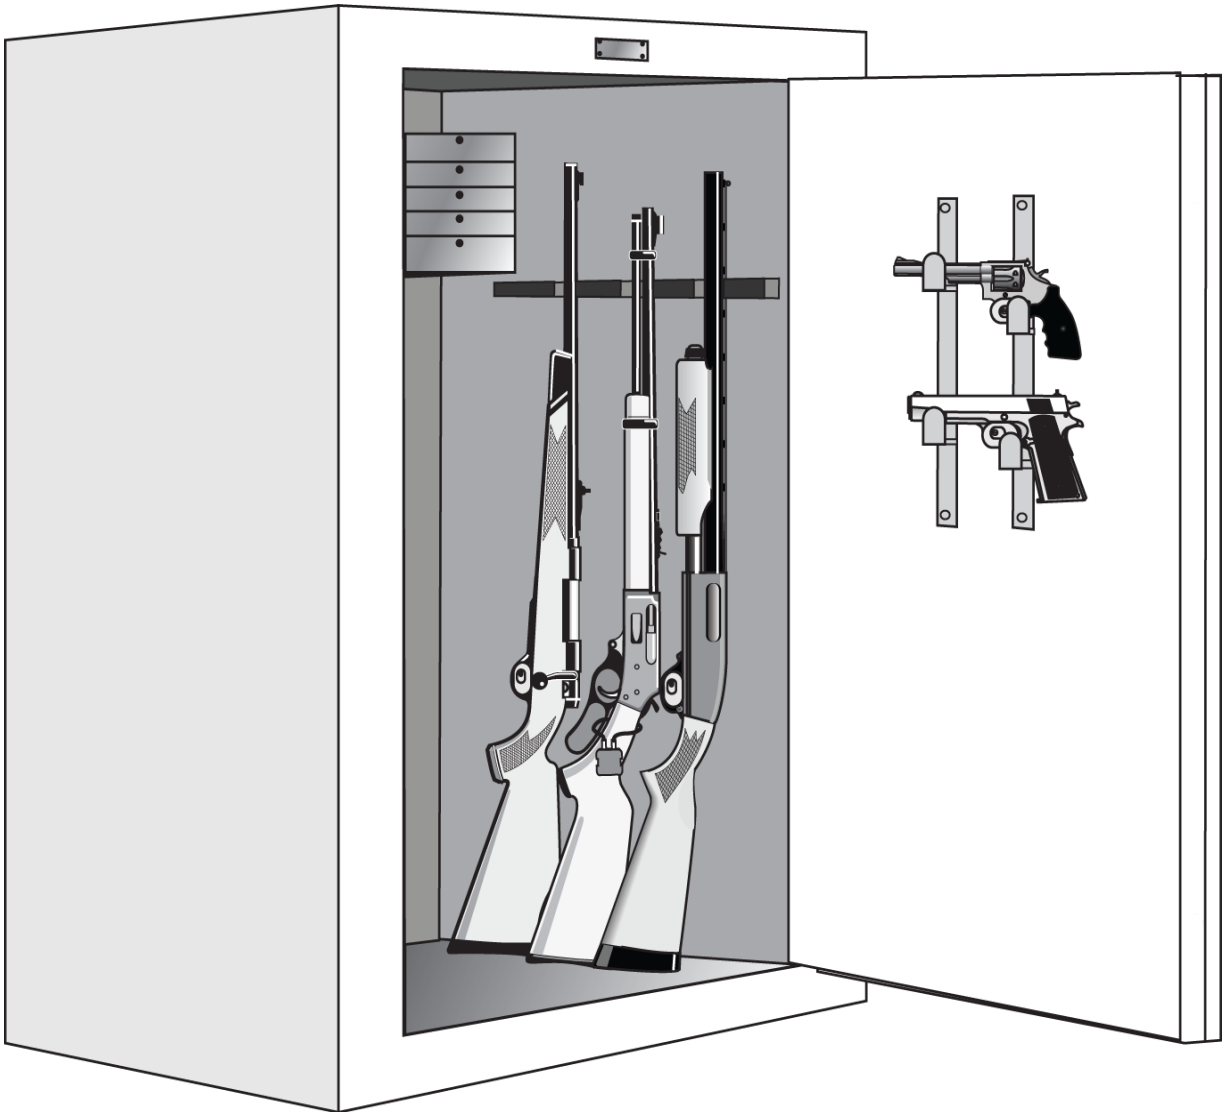
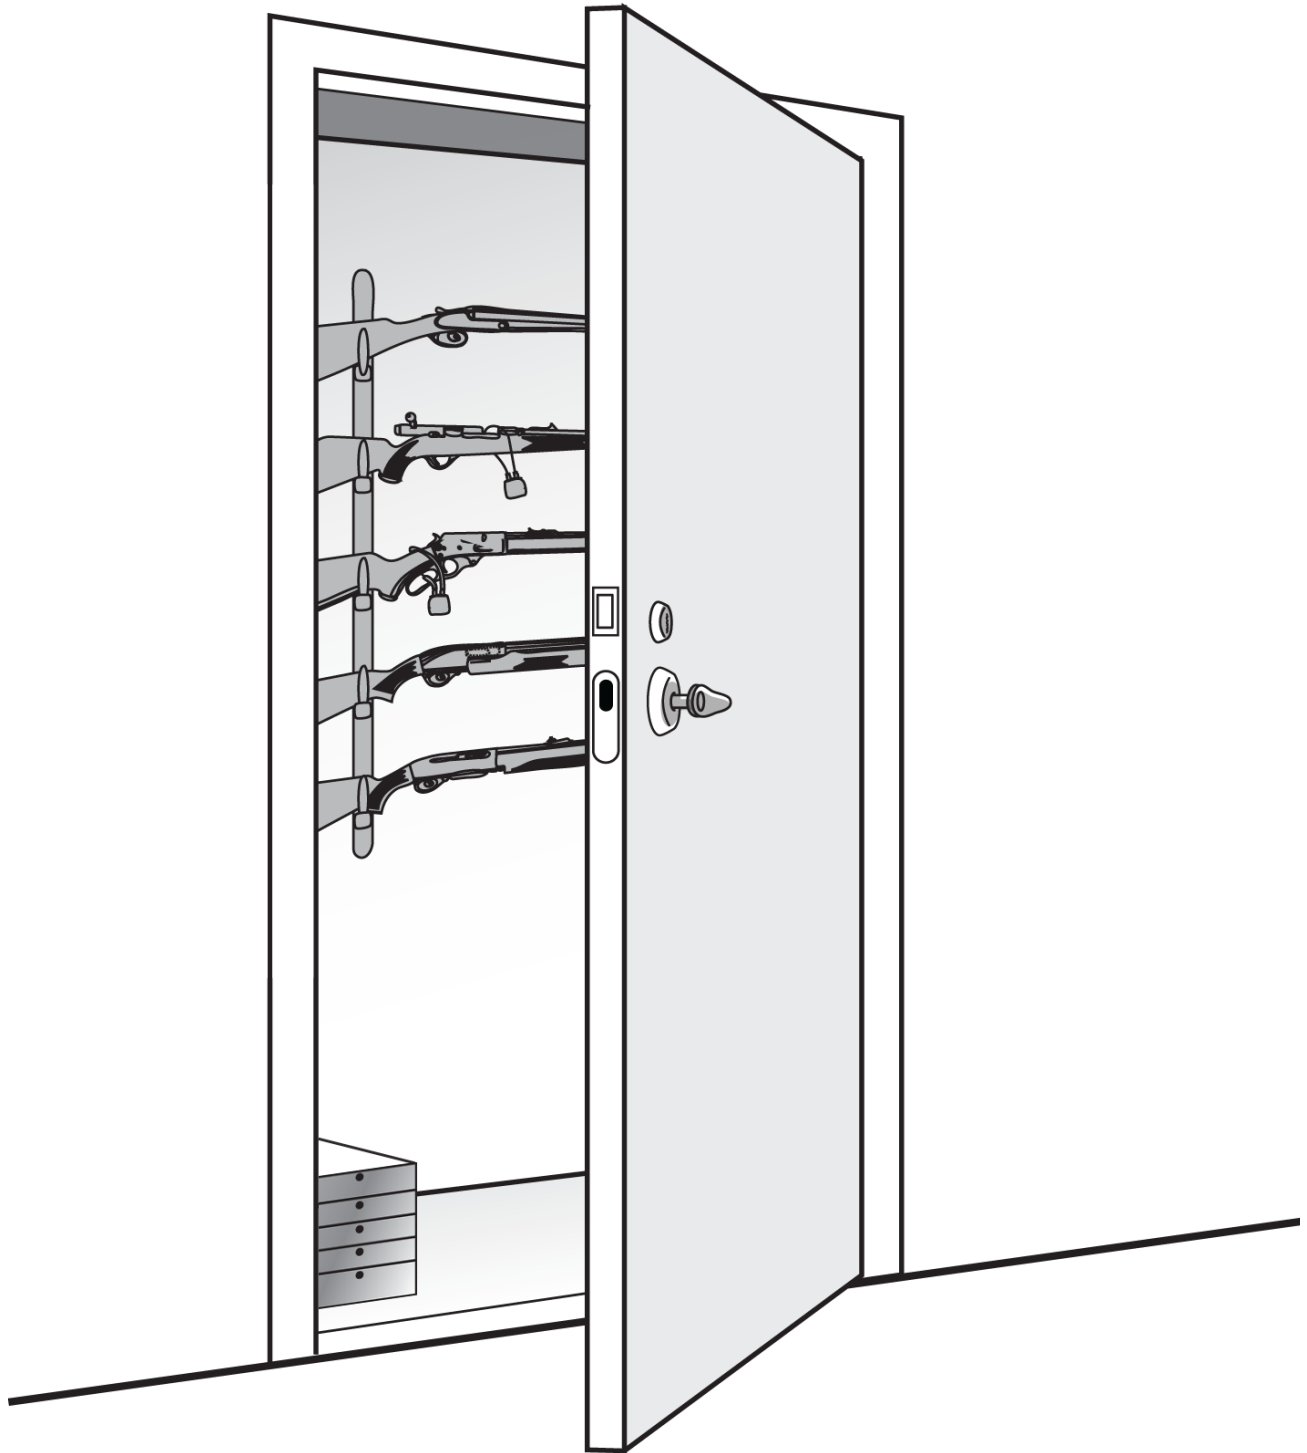

Figure 134. Storage Vault (safe)
Figure 135. Secure Room (restricted firearms)
- stored in a securely locked vault (Figure 134), safe or room (Figure 135) specifically built or adapted for the secure storage of restricted firearms; and